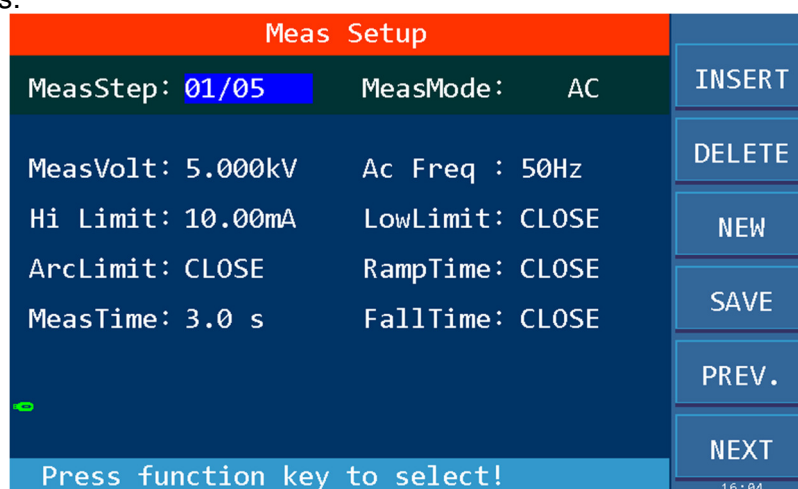

Figure 4-9 Meas Setup
1. Press **[SETUP]** to enter the measurement setup interface shown in Figure 4-9.